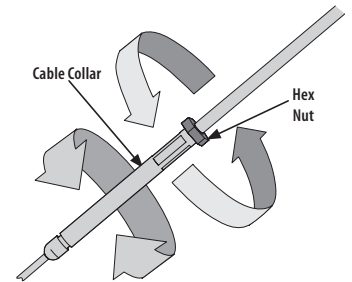

Figure 9
2. Adjust the forward clutch cable by loosening the hex nut. See Figure 9.
3. Turn the cable collar section one or two turns to increase or decrease tension on the cable. See Figure 9.
4. Retighten the hex nut against the cable collar. See Figure 9.